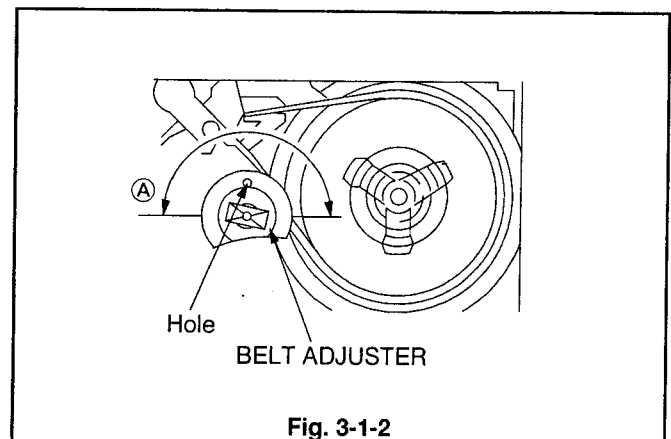

Fig. 3-1-2
3. If "A" is not $0.6 \pm 0.5\text{mm}$, move the Hole in the BELT ADJUSTER in the Fig. 3-1-2 within the range shown by the arrow (A) to set "A" at $0.6 \pm 0.5\text{mm}$.